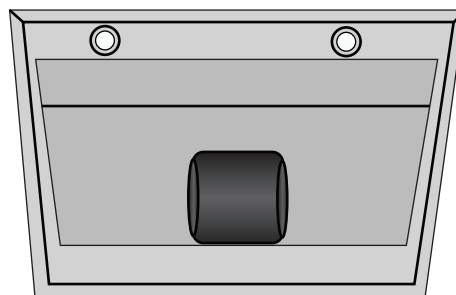

Figure 3
- Position the unit on its back on a flat non-abrasive surface - front facing you (see Figure 3).
- Remove the 2 filters to allow access to the inside of the unit (see Figure 3).